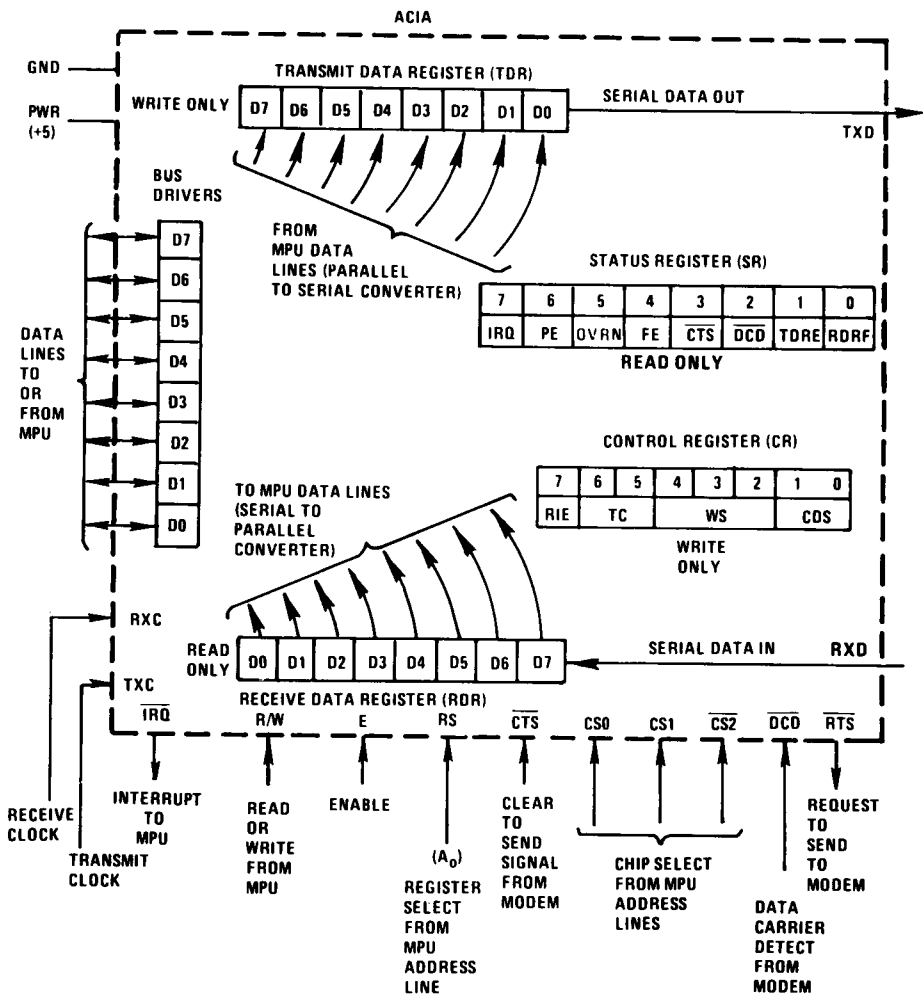

Fig. 9.30 Register select line
Register Select (RS) The register select line is a high-impedance, TTL-compatible input from the MPU that is used to select, in conjunction with the read/write line, either the transmit/receiver data register or the control/status register in the ACIA (Fig. 9.30). It must be tied to an address line from the MPU. A high or RS selects transmit/receive data registers; a low selects control/status registers.